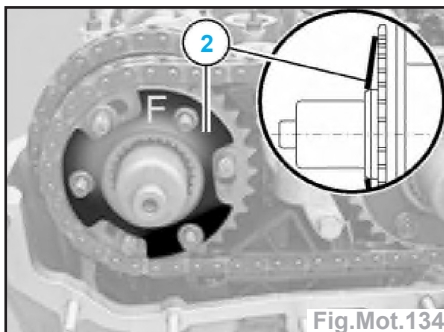

Fig.Mot.134
- Retirer le disque-ressort (2) (Fig.Mot.134).